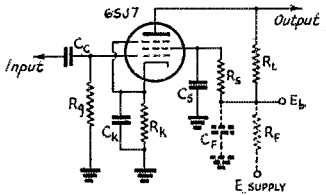
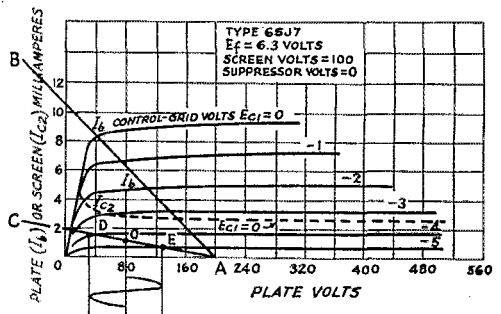

Fig. 3 — Pentode resistance-coupled amplifier circuit.
Fig. 4 — Plate-voltage vs. plate-current characteristic curves for the Type 6SJ7 pentode tube.
for a selected plate-supply voltage. As an example, in the circuit of Fig. 3 a supply voltage of 200 (E_b) is assumed. Since the maximum value of 200 volts is applied to the 6SJ7 plate only when no plate current flows, one point on our load line is certain to be at point A, shown in Fig. 4, where the plate current is zero and the plate voltage 200. From point A, load lines of various slopes may originate; the lower the plate load resistance, the steeper the slope. Since, as in the previous example, we are only interested in obtaining a large plate-voltage variation with a minimum variation in plate current, the slope of our load line should be as far down on the curves as possible and still accommodate the complete grid swing without running into the distortion region. Therefore, two typical load lines were drawn on the curves shown in Fig. 4. The load line AB represents a load resistance of 13,000 ohms which provides for a 5-volt grid signal without distortion, while load line AC represents a load of 110,000 ohms which provides for a 1-volt signal. Load-line AC would be the most common, since the 6SJ7 is a high-gain pentode which is designed to amplify small input signals to a much higher level.
11) The total plate-voltage swing as determined by the perpendiculars of Fig. 4 is 130-30 = 150 volts. From the ratio, $\frac{106,400}{110,000}$, we know that 97 per cent of the output voltage or 97 volts peak-to-peak appears across the plate resistor. Since a 1-volt peak-to-peak signal is applied at the grid, the stage gain is $\frac{97}{1} = 97$.